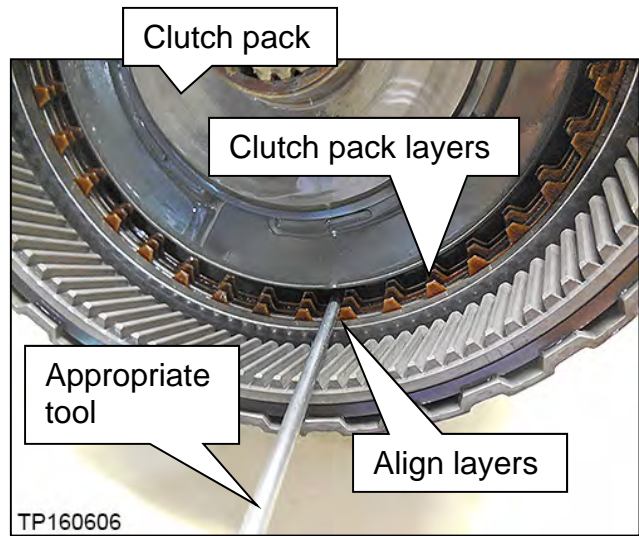

Figure 212
- Bottom of the clutch pack shown in Figure 212.